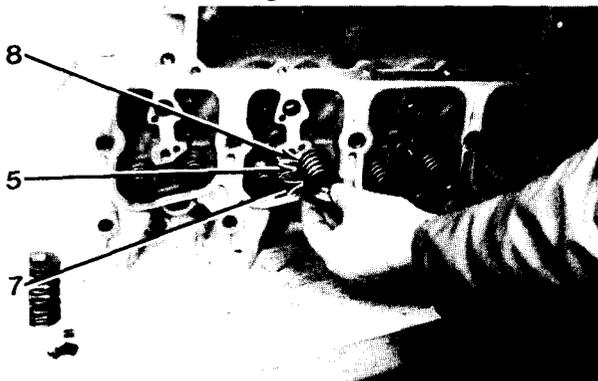

Figure 6-5
3. Release valve spring (5) slowly and remove retainer (7), valve spring (5) and valve (8, Figure 6-5). Keep valve (8) in a labeled rack.